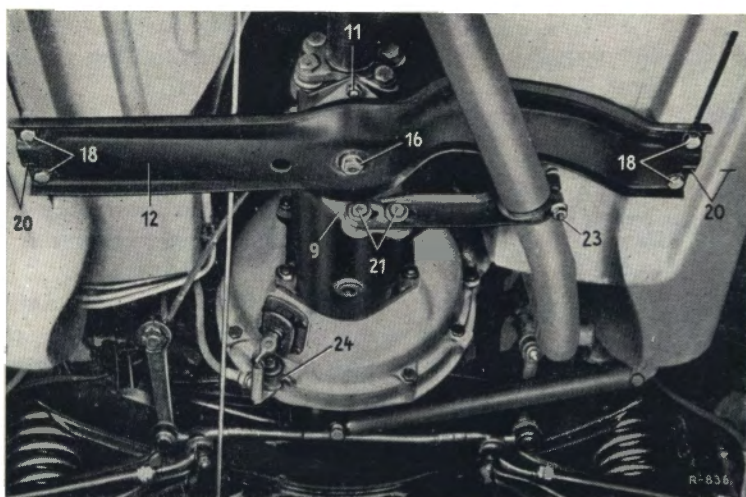

Fig. 26-1/4
7. Unscrew the engine support (3) with the rubber mounting (14) at the transmission case rear cover (8) and remove it together with the mounting plate (9) (see Fig. 26-1/8).